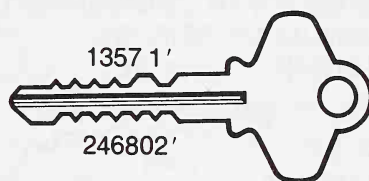

Fig. 10-30. A list of combination numbers for a second masterkeyed group. Each number contains the unique slot code number 0.
- Repeat step 5. However, substitute the other unique slot code number for the one previously used. This list of combination numbers represents the second masterkeyed group. Though these two groups may appear similar, their masterkeys are not interchangeable since one will not have the notch which is necessary to operate that combination wafer which is used exclusively in the other group (Fig. 10-30).